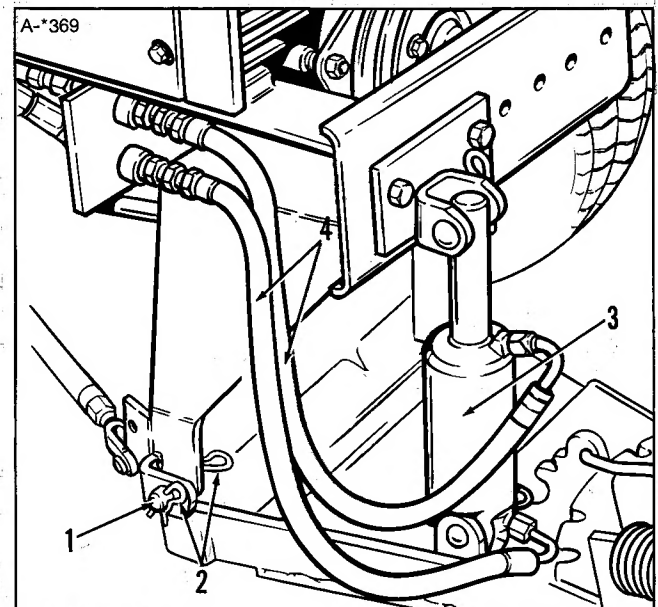

Figure 3.
1. Connect the push bar to the hitch with one pin (1, figure 3) and two clips (2) on each side.
2. Connect the cylinder (3) to the dozer blade and tractor hitch with pin and clip at each end.
3. Connect the hydraulic hoses (4) to the cylinder.
7. After initial installation, test operation of the hydraulic control. The blade should raise when lever is pulled back, and lower when lever is pushed forward. If it does not, switch around the hoses (4, figure 3).